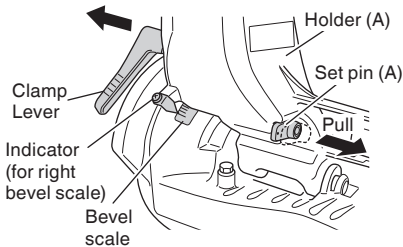

Fig. 28
- (1) Loosen the clamp lever and bevel the saw blade to the left or to the right. When tilting the motor head to the right pull the set pin (A) towards the rear. The clamp lever adopts a latching system. When contacting the work bench and the main body, pull the clamp lever in the direction of the arrow mark as illustrated in Fig. 28, and change the direction of the clamp lever.
- (2) Adjust the bevel angle to the desired setting while watching the bevel angle scale and indicator, then secure the clamp lever.
- (3) Follow the procedures indicated in paragraphs 4,5 and 6 above. For maximum dimensions for bevel cutting, refer to "SPECIFICATIONS" table on page 12.